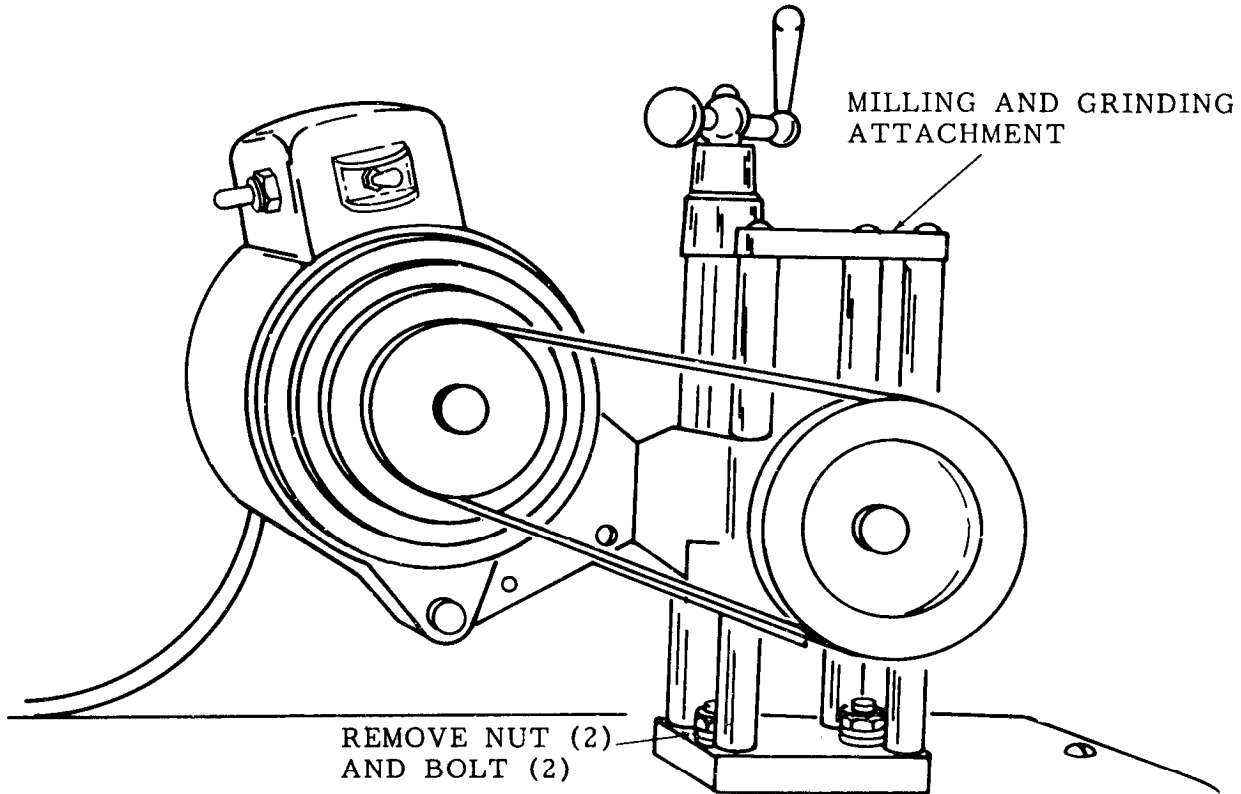

Figure 15-5. Milling and Grinding Attachment, Removal and Installation.
- a. Removal. Remove two nuts and washers (fig. 15-5), and remove milling and grinding attachment from panel.
- b. Installation. Place the milling and grinding attachment on the panel (fig. 15-5), and secure with the two nuts and washers.